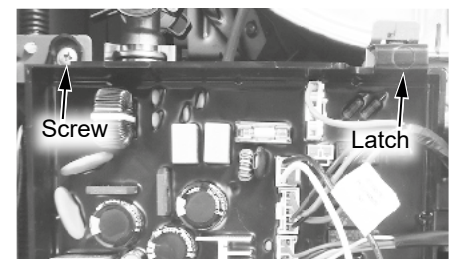

Figure 3 - Control board location
- 12** Locate the two (2) screws at the bottom of the cabinet cover. Use a Phillips screwdriver to remove the screws. Place screws aside in a safe place for reinstallation.
- 14** Locate the screw securing the control board panel as shown in Figure 3. Use a Phillips screwdriver to remove the screw and place it aside in a safe place for reinstallation.